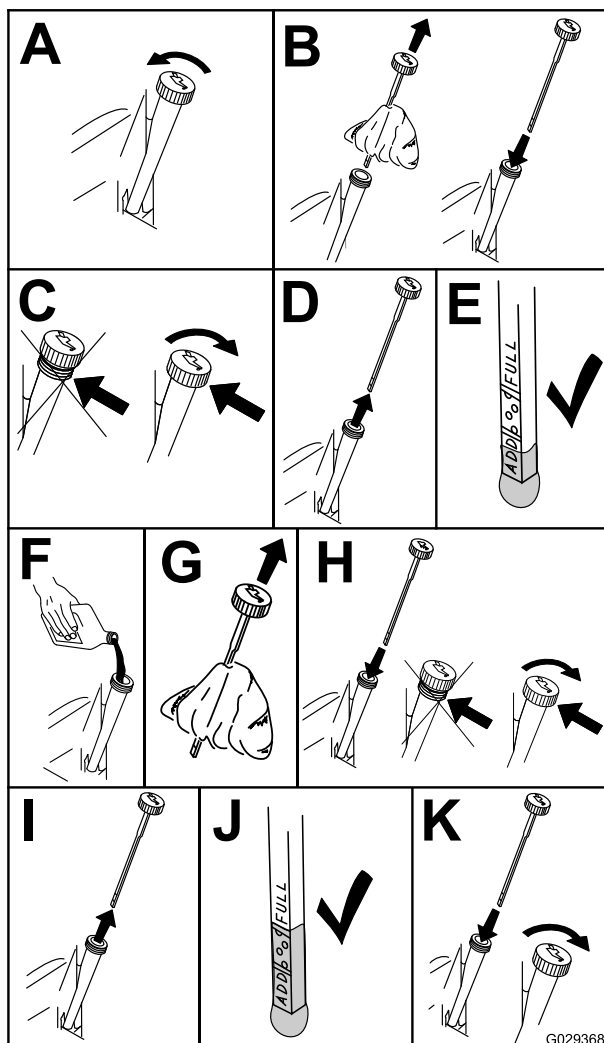

Figure 31
- To keep dirt, grass clippings, etc., out of the engine, clean the area around the oil-fill cap and dipstick before removing it (Figure 31).